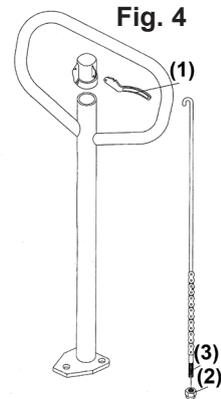
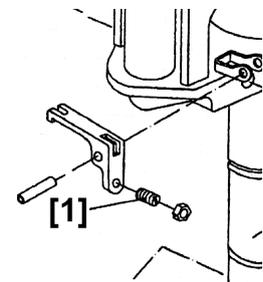

Fig. 4
Fig. 5
IMPORTANT: The numbers in Fig. 4 are designated by oval brackets. The number in Fig. 5 is designated by square brackets.
- 6.4.2 The air can be purged by setting the operating handle control lever, (1) in Fig. 4, to the **LOWER** position and pumping the operating handle up and down for a few seconds.